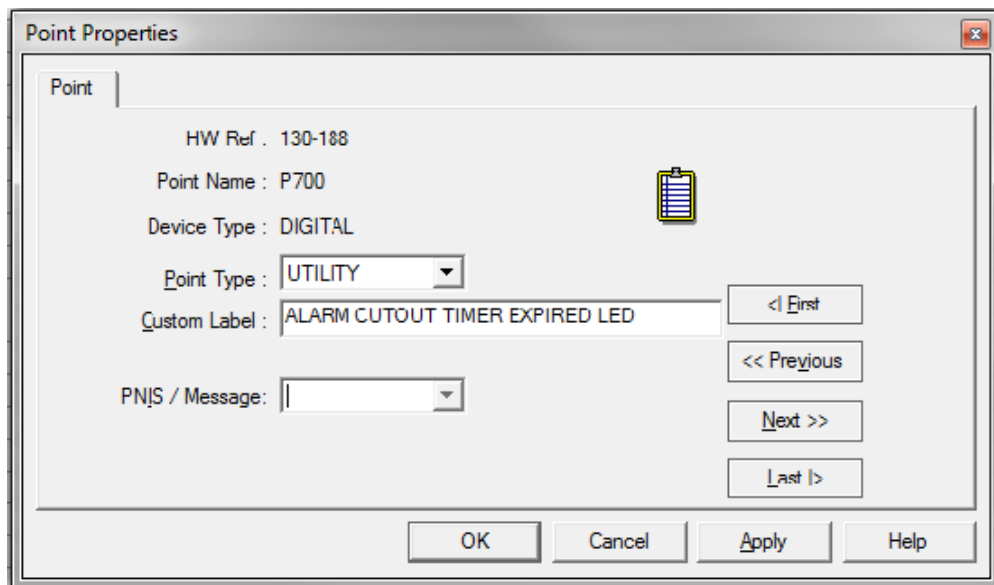

Figure A- 4. Pseudo Point Properties
4. Enter the description in the **custom label** field, as shown in Figure A- 4.